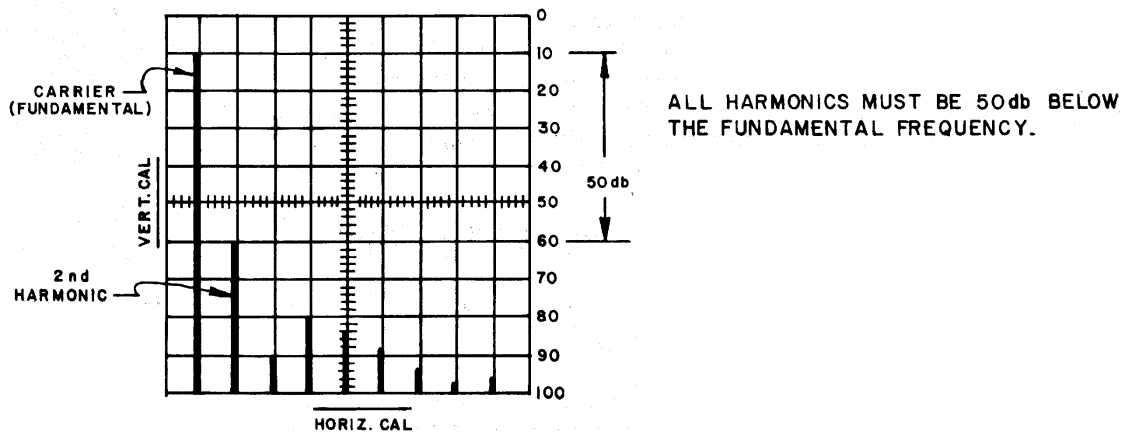

FIGURE 5, HARMONICS FREQUENCY PATTERNS
- 6) Key the transmitter and adjust the TVI trap (L914) for minimum indication of the (54 MHz) signal. All harmonics up to 270 MHz and below 27 MHz should be 50 db or more below the carrier fundamental, as shown in Figure 5.